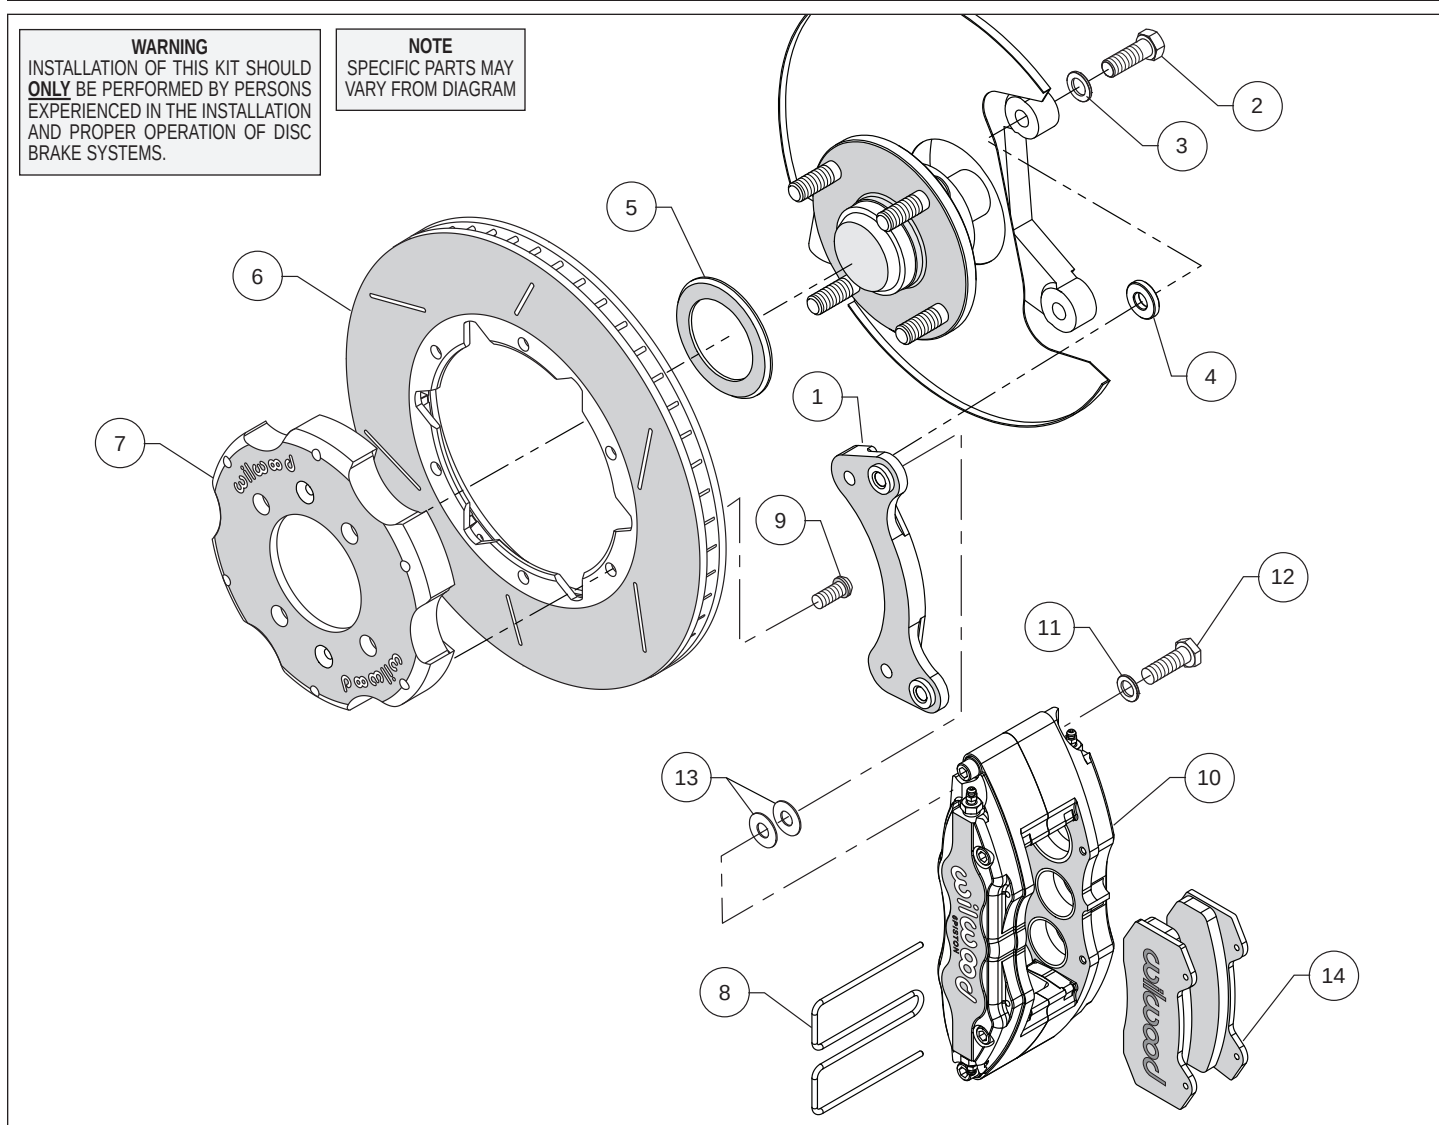

Figure 1. Typical Installation Configuration
Assembly Instructions (numbers in parenthesis refer to the parts list and Figure 1 on the preceding pages): **CAUTION:** All mounting bolts must fully engage clinch nuts. Be sure to check that all bolts are either flush or protruding through flanged side of clinch nut after shimming, Figure 3.
- Orient the caliper mount bracket (1) as shown in Figure 1 and Photo 1, and install using bolts (2) and washers (3). Place a spacer (4) on each bolt between the bracket and caliper mounting bosses, Figure 1 and Photo 2. Ensure that the flanged heads of the clinch nuts in the bracket are facing outboard, Photo 1. Temporarily tighten the mounting bolts. **NOTE:** The bracket must fit squarely against the mount bosses on the upright. Inspect for interference from casting irregularities, machining ridges, burrs, etc. Remove bolts one at a time, apply red *Loctite*® 271 to the threads and torque to 30 ft-lb.
- Orient the rotor (6) and the hat (7) as shown in Figure 1 and Photo 3. Attach rotor to hat using bolts (9). Using an alternating sequence, apply red *Loctite*® 271 to the threads, and torque to 25 ft-lbs.
- NOTE:** Please reference the caution statement at the beginning of the assembly instructions. This kit contains distinct right and left hand calipers that must be mounted in a specific direction, as described below. Mount the caliper (10) onto the caliper mounting bracket (1) using bolts (12) and washers (11), as shown in Figure 1. Initially place two .035" thick shim (13) on each bolt between the caliper and the bracket, Photo 5. Ensure that the caliper is mounted so the largest pistons are at the rotor exit end of the caliper, in relation to the direction of rotor rotation. Temporarily tighten the mounting bolts and view the rotor (6) through the top opening of the caliper. The rotor should be centered in the caliper, Photo 6. If not, adjust by adding or subtracting shims between the bracket and the caliper. Always use the same amount of shims on each of the two mounting bolts. **NOTE:** The end of each bolt must be flush with or slightly protruding from the head of the clinch nut, as shown in Figure 3. If necessary place spare shims between washer (11) and caliper mounting ear to achieve the proper clinch nut engagement. Once the caliper alignment and clinch nut engagement are correct, remove the bolts one at a time, apply red *Loctite*® 271 to bolt threads, and torque to 40 ft-lb.